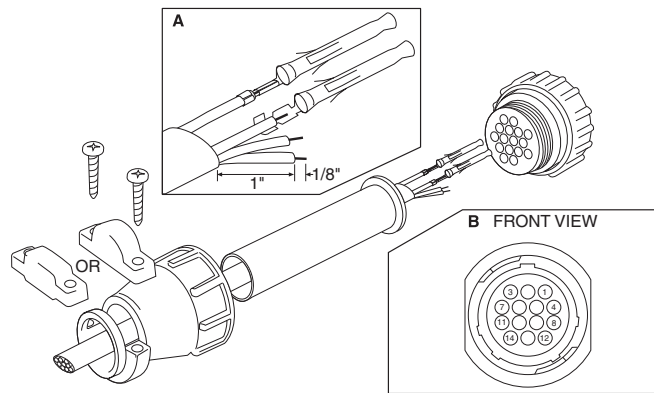
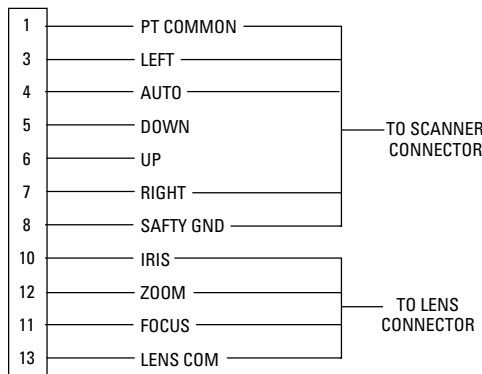
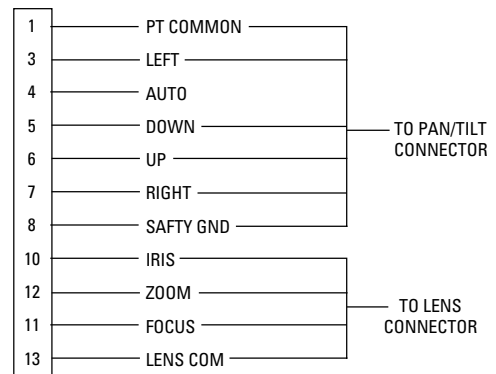

Figure 4. Connector Assembly
Figure 5. MPTAZ115DT, MPTAZ220DT Wiring Diagram for Scanners and Lenses
Figure 6. MPTAZ115DT, MPTAZ220DT Wiring Diagram for Pan/Tilts and Lenses
MPTAZ115DT or MAPTAZ220DT - Assemble the mating connector. Refer to Figure 4 and perform the following steps.
- b. Refer to Detail A in Figure 4. Prepare the wires from the conductor cable as follows:
- c. Slide the connector pins into the appropriate holes in the connector body until they snap into place. Refer to detail B in Figure 4 and to Figures 5 and 6 for the correct pin arrangement.
- f. Wire the connecting cable from the pan/tilt or scanner to the controller. Refer to one of the following wiring diagrams: Figure 5 (scanners) or Figure 6 (pan/tilts).